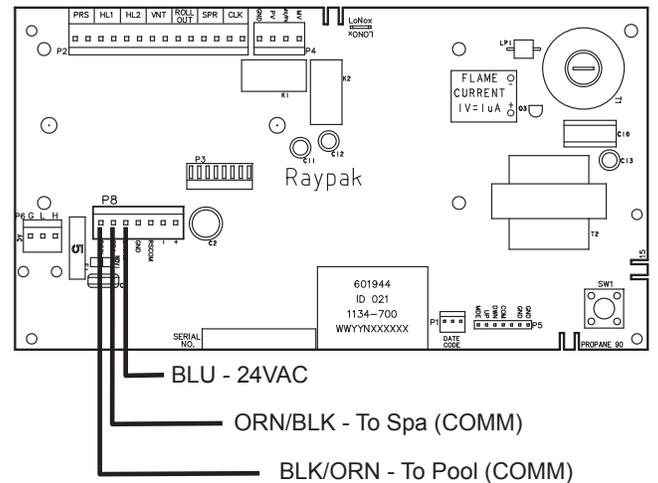

Figure 33. 3-Wire Remote Harness Installation on the P8 Connector, P-156 only
6. Install the "Remote Interface Harness" to the P8 connector and turn power "ON" to the heater. See **Figure 33**.